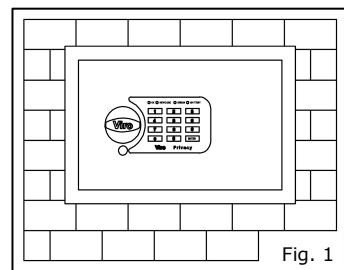

Fig. 1
- Optimal Depth: the safe door should be perfectly aligned to the wall (see Fig. 1).
3. Fix the safe into the hole after checking the correct position i.e. door hinges are positioned on right-hand side when you face it and the installing surface is plane (see Fig. 1).